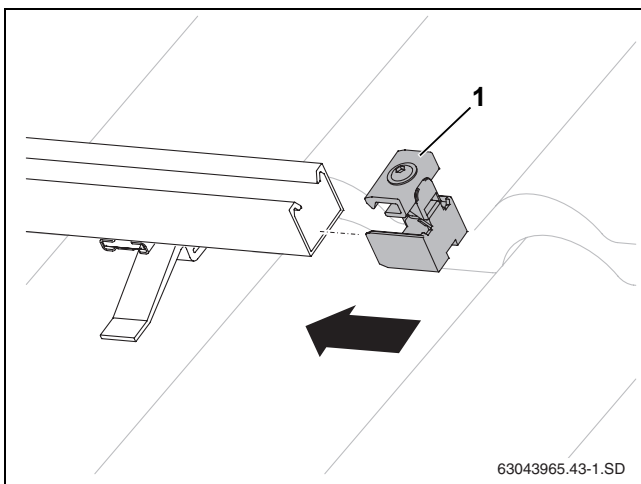

Fig. 37 Fitting the lateral collector tensioner
- ▶ Insert the side collector tensioner on the profile rails (Fig. 37, [1]) on the far right of the collector array until the profile rails fit into the first oblong hole.